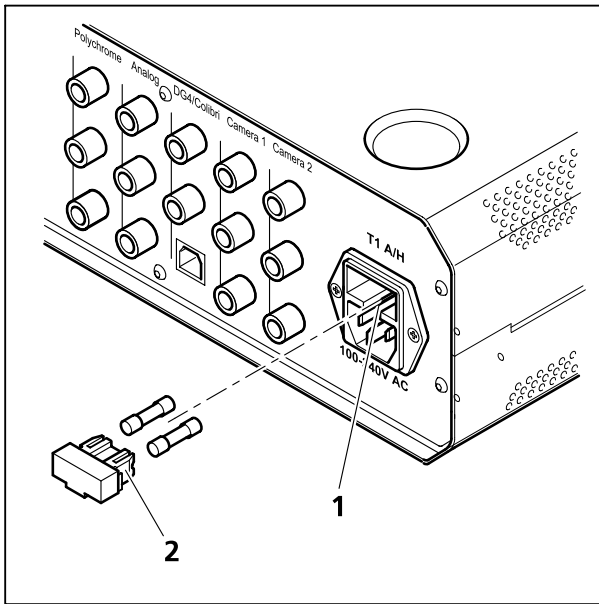

Fig. 5-1 Replacement of fuses in signal distribution box
- Pull fuse holder (Fig. 5-1/2) out from the front. Use a small screwdriver for convenience.
- Insert fuse holder into the fuse compartment until mechanical stop position (Fig. 5-1/1).